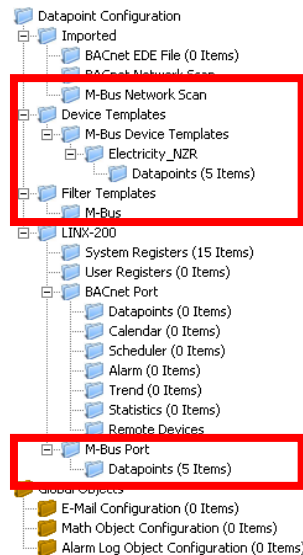

Figure 252: Data Point Manager Dialog with M-Bus folder list
The Web page shows a list of all **Devices in configuration**. An example is shown in Figure 252. Each line displays the device name, the primary **Address** and the secondary address (**ID**). The **Status** column shows their current status. It can be one of the following:
- The folder list (Figure 252)